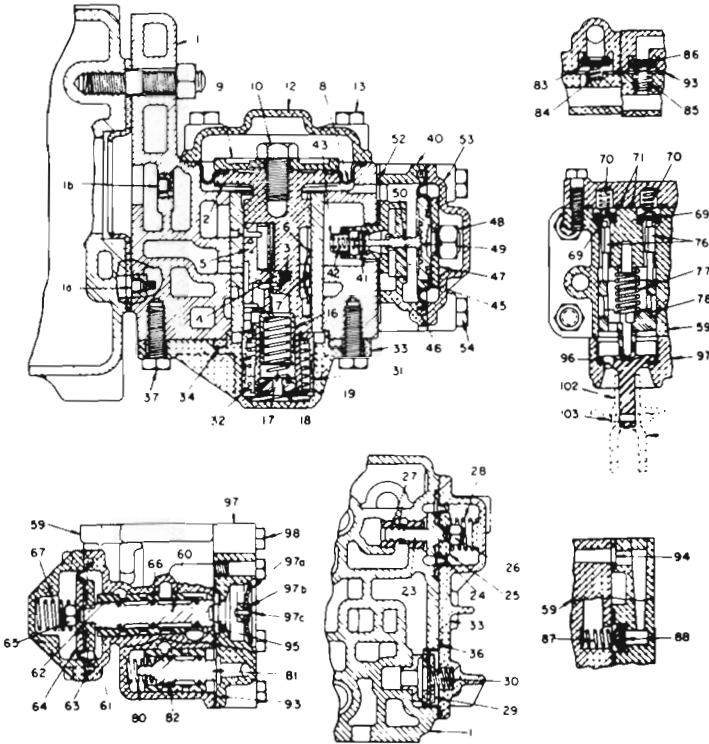

Figure 6
4.5 The service portion has a total of fifteen springs (fourteen coil and one leaf) which are identified in Fig. 6 and Table 1 by reference numbers as follows: